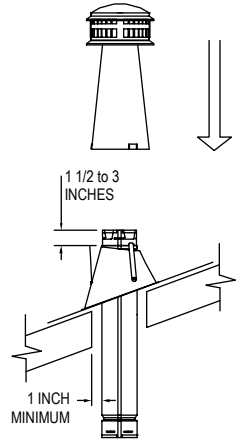
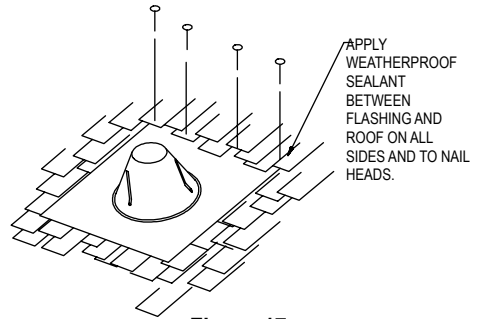

Figure 16
Figure 17
4. Flashing. Position the Flashing so the hole is directly over the end of the pipe, as shown in **Figure 16**. Run the top edge of the Flashing under the roof covering, nail as required, and seal with a non-hardening sealant, as shown in **Figure 17**. Seal all nail heads.
5. Height. Add sufficient Pipe Sections of B-Vent until the system terminates 1-1/2" to 3" above the collar of the Flashing as shown in **Figure 16**.